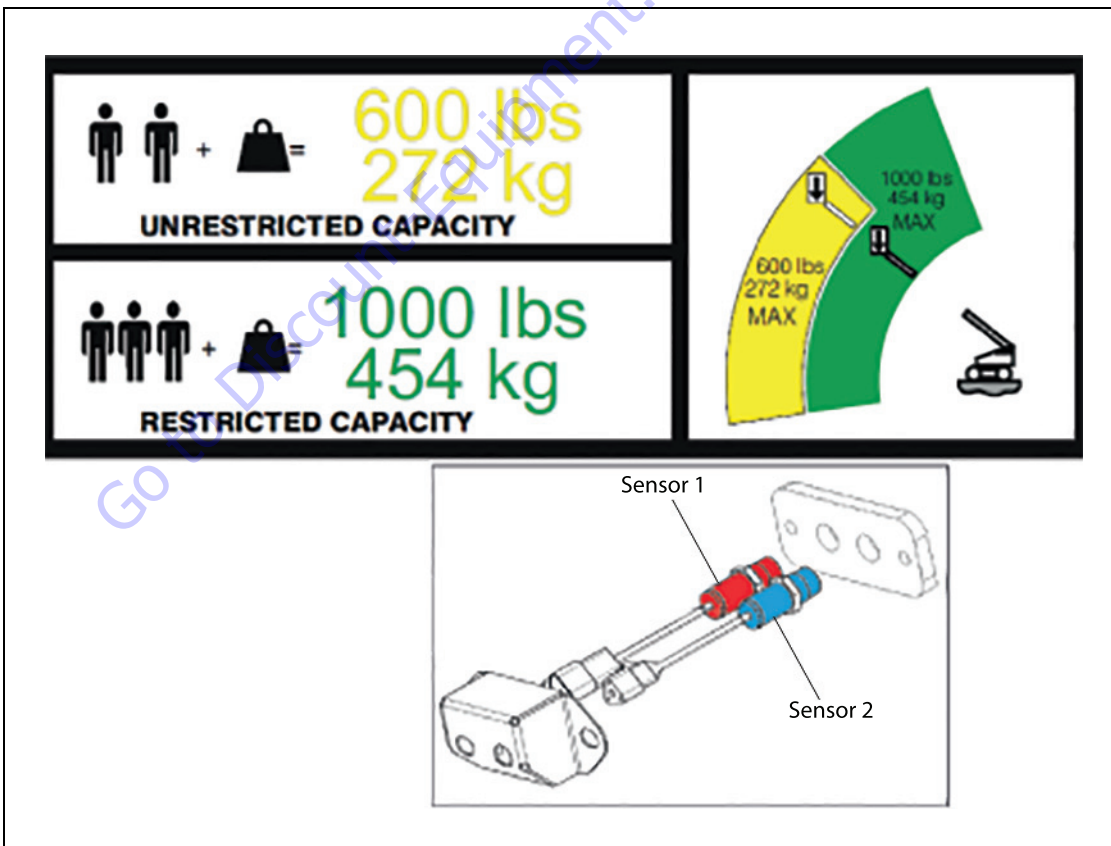

Figure 4-4. Dual Capacity Sensors
The Sensor 1 (left proximity sensor, refer Figure 4-4.) is normally open sensor which is closed in unrestricted capacity condition. LED for Sensor 1 is ON in this mode.
The Sensor 2 (right proximity sensor, refer Figure 4-4.) is normally closed sensor which is open in unrestricted capacity condition. LED for Sensor 2 is OFF in this mode.
- The Machine Control Unit will allow the platform to go anywhere in the working envelope. The unrestricted capacity working envelope is shown in Figure 4-4.
The Sensor 1 (left proximity sensor, refer Figure 4-4.) is normally open sensor in unrestricted capacity condition. LED for Sensor 1 is OFF in this mode.
The Sensor 2 (right proximity sensor, refer Figure 4-4.) is normally closed sensor in unrestricted capacity condition. LED for Sensor 2 is OFF in this mode.
- The Machine Control Unit will not allow the platform to go beyond boundaries of the restricted zone. It will allow retraction of the fly boom or lifting up of the main boom. The restricted capacity envelope is shown in Figure 4-4.